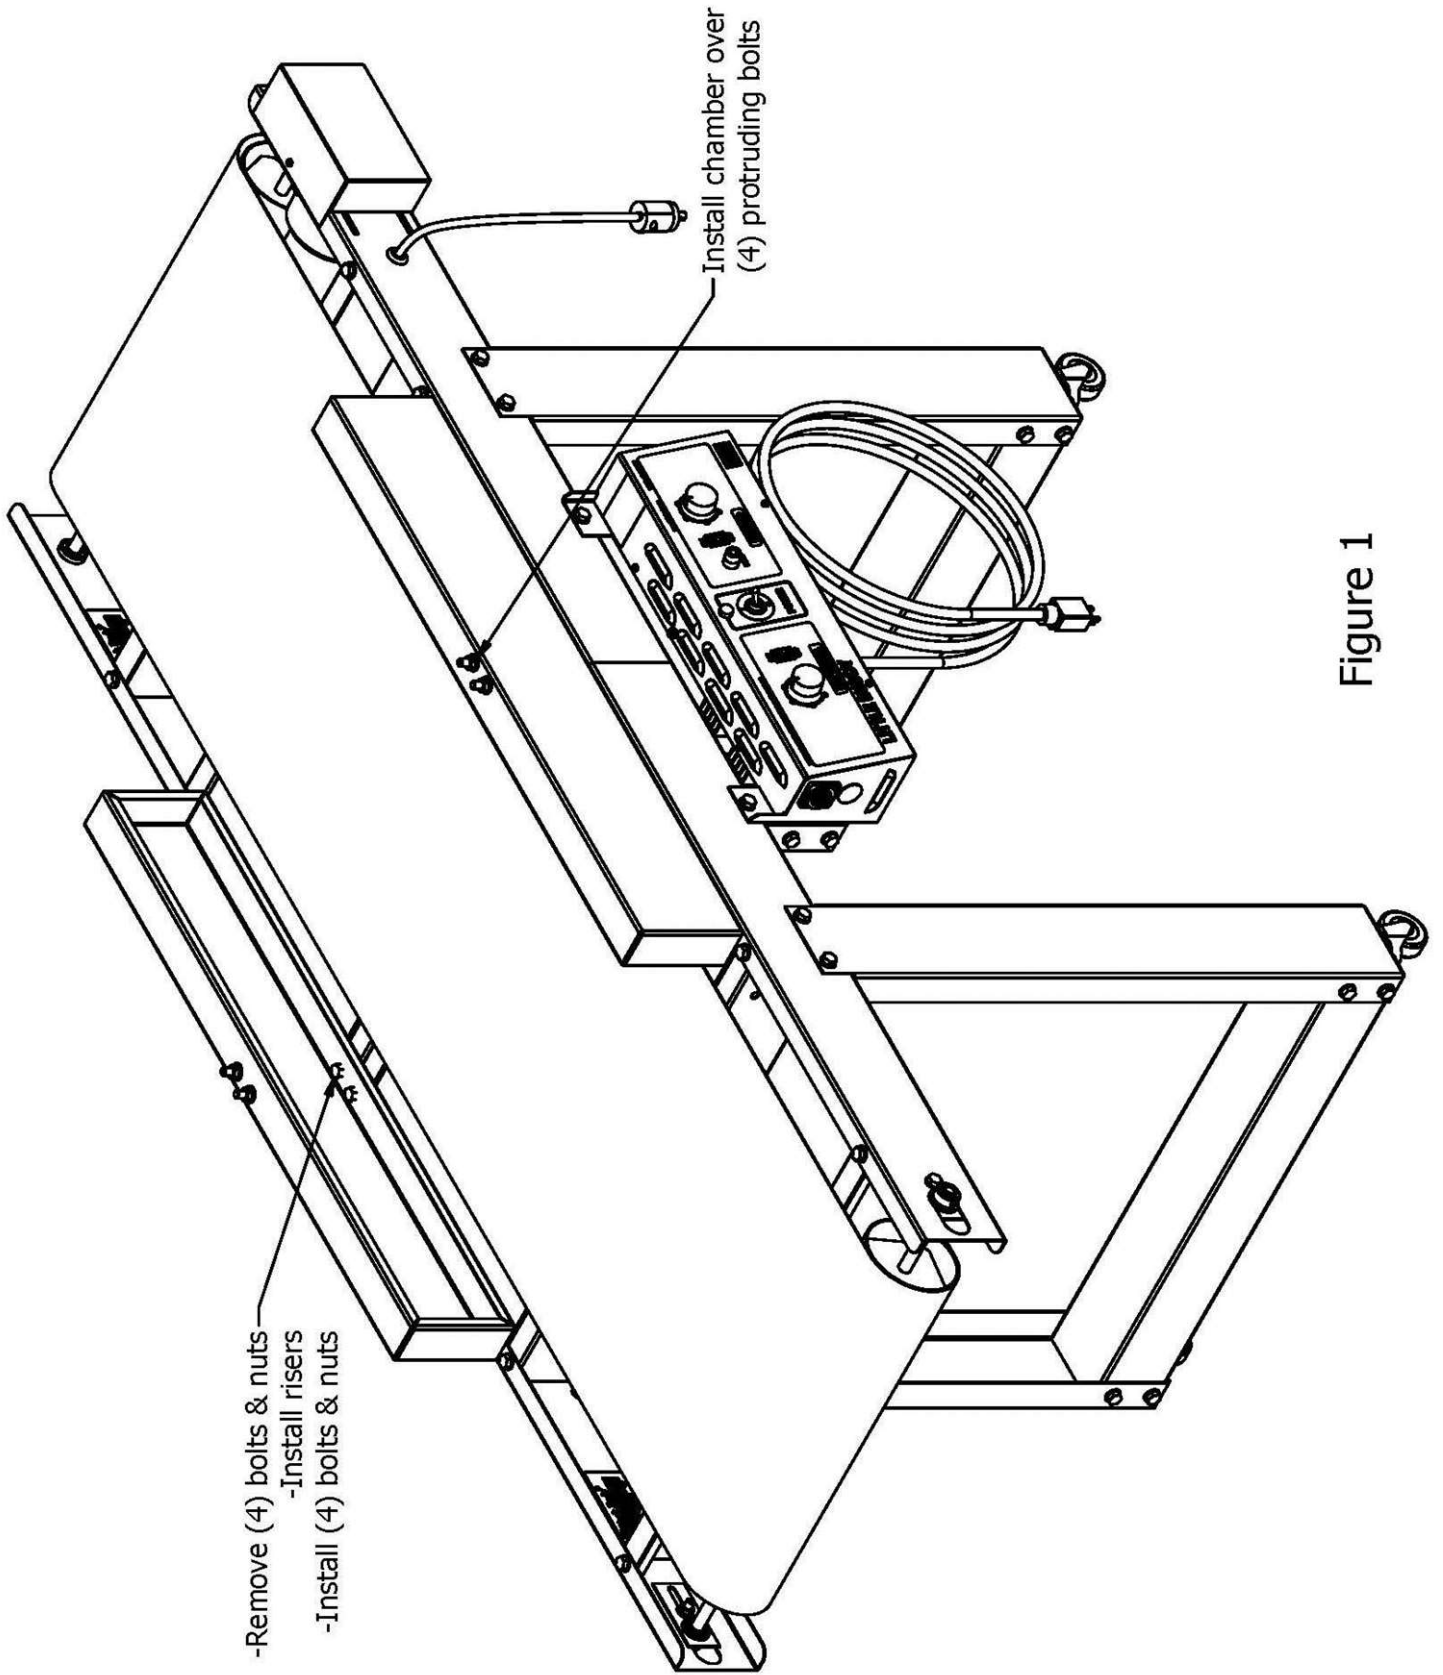

Figure 1
2. Remove (4X) NUTS and (4X) BOLTS from Conveyor Bed per Figure 1 of this Manual.
3. Install CHAMBER RISERS with (4X) NUTS and (4X) BOLTS from previous step. See Figure 1.